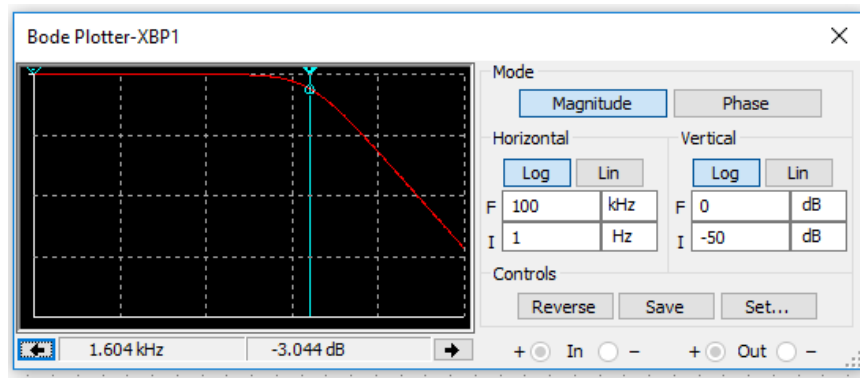

Figure 10. Bode plotter window.
6. In the **Bode Plotter – XBP1** window (Figure 10), change the initial frequency (**Horizontal/I**) to **1 Hz**, the final frequency (**Horizontal/F**) to **100 kHz**, and the initial amplitude to **- 50 dB**.